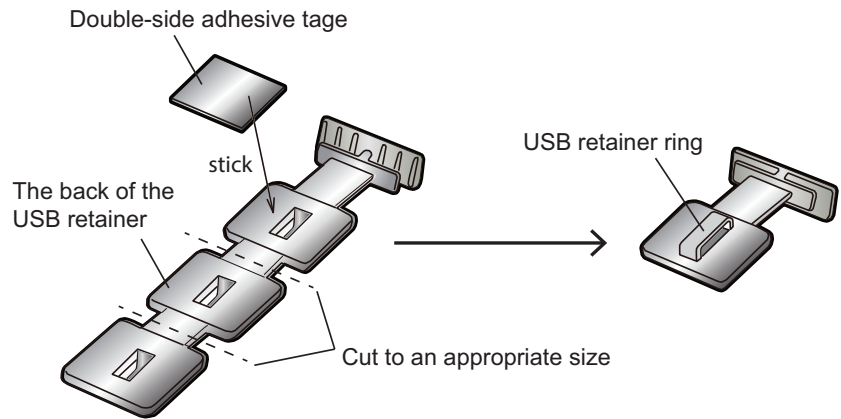

Figure 15. USB retainer
1. To fit the shape of the USB device, cut the USB retainer to an appropriate size and stick the double-side adhesive tape onto the back of the USB retainer as shown in Figure 15.